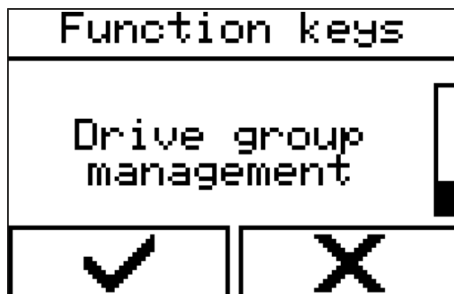

Fig. 47: Selecting a menu
- ➔ Select the menu via 'Hand switch' → 'Premium functions' → 'Settings of function keys' → 'Drive group management' (Fig. 47).